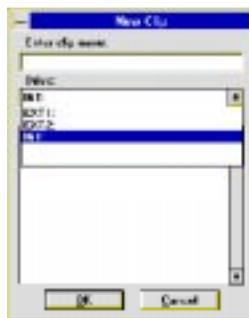

Figure 148. New Clip dialog box
2. Choose **VideoClip | New Clip** to access the New Clip dialog box (Figure 148).